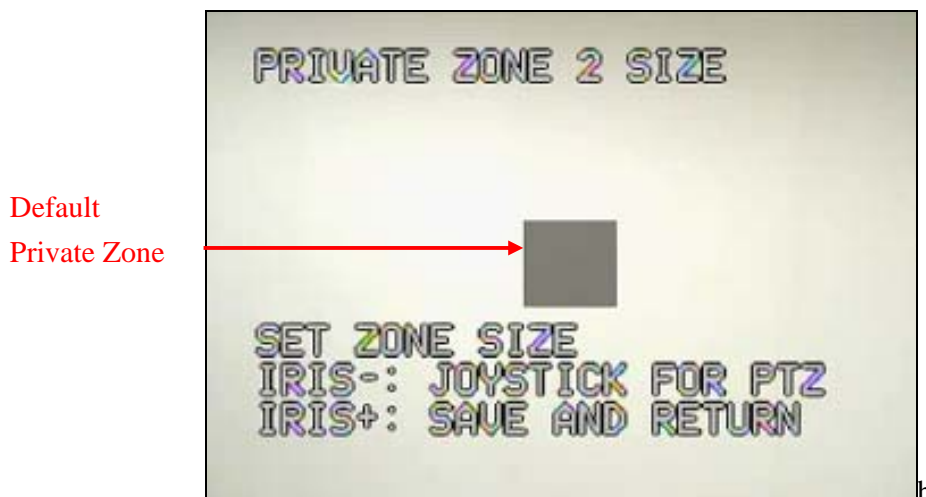

Figure 2-52 Private Zone – Size Setting Window
4. Press Enter to save position and enter next window, **Private Zone Size** setting window (See Figure 2-52). A small and gray square area showing on center of the window is default private zone.